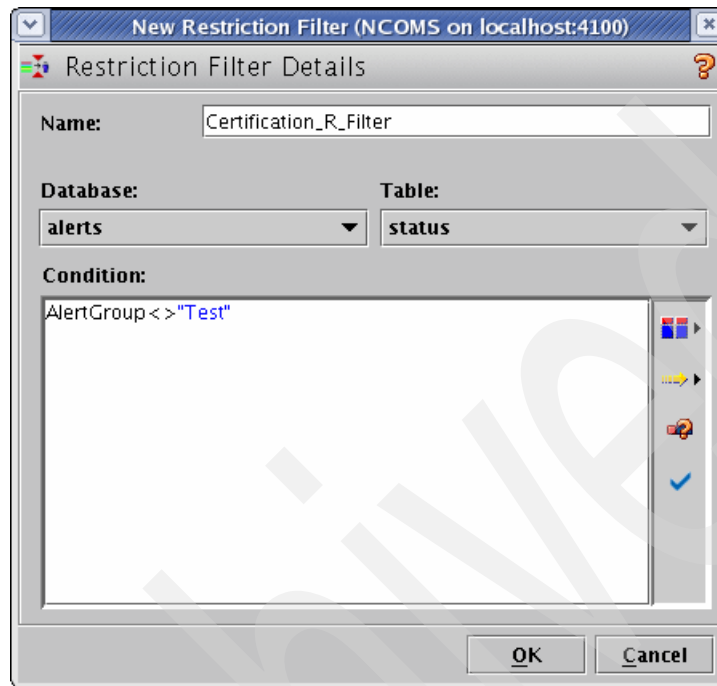

Figure 4-29 Restriction Filter creation
2. Select Add Restriction Filter  from the toolbar. The creation window is shown in Figure 4-29. Assign a name to the filter and enter the filter criteria.